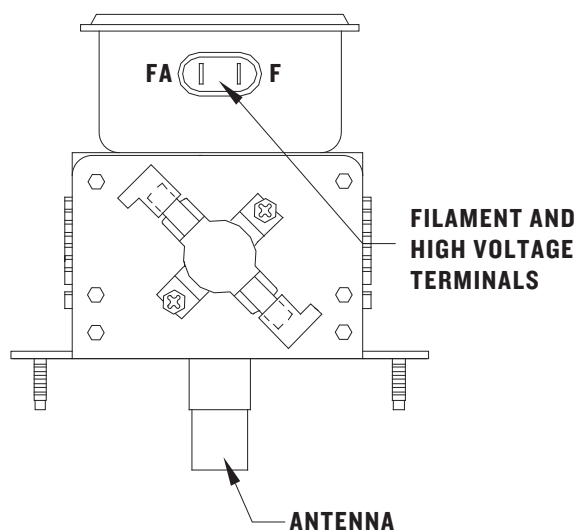

Figure 30: Magnetron
Figure 30. Magnetrons supply the RF energy at 2.45 GHz and begin to oscillate when they are supplied with approximately 4.1 kVDC at approximately .350 mA. During operation each magnetron will output a nominal 1 kW of power.
2. Isolate the magnetron from the circuit by removing the wires from the F and FA terminals. Figure 30.
3. An ohmmeter connected between the filament terminals (F, FA) should indicate a reading of less than 1 ohm. Figure 30.